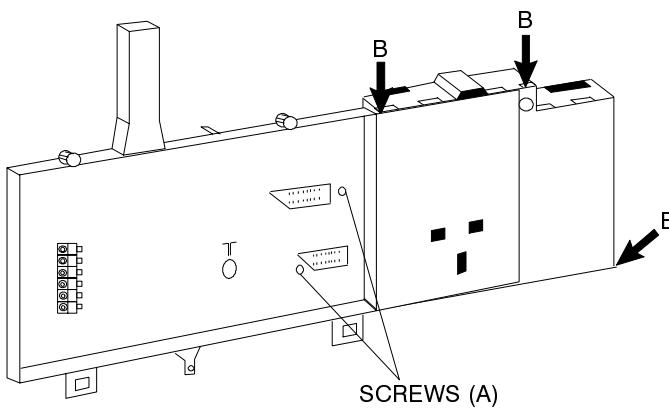

Fig. 10.
2. Remove the two screws (A) (Fig.10) from the plastic AV cover and unclip the AV cover from the A-board.
3. Carefully unclip the three metal clips marked B in Fig.10.